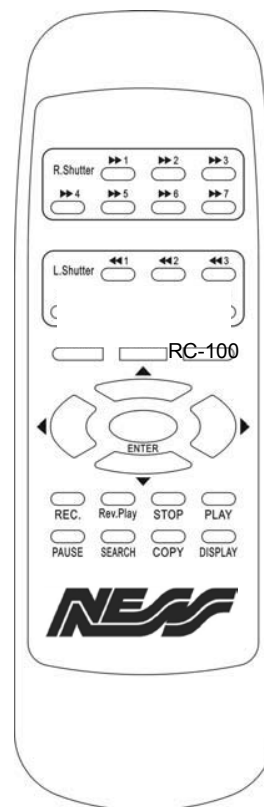

Figure 1
- The remote controller is an accessory to enhance the handy operations of EDSR100 (Figure 1). You can operate all functions settings via the IR remote control.